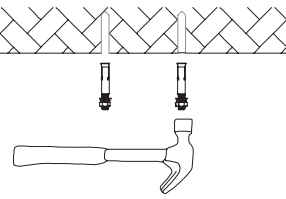

Fig. 4
2. Use a hammer to put the sleeve anchor into the hole. (Fig. 4)